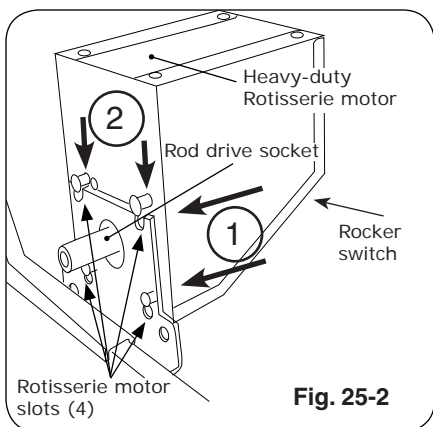

Fig. 25-2
12. Plug-in the rotisserie motor and press the rocker switch to start (Fig. 25-2).